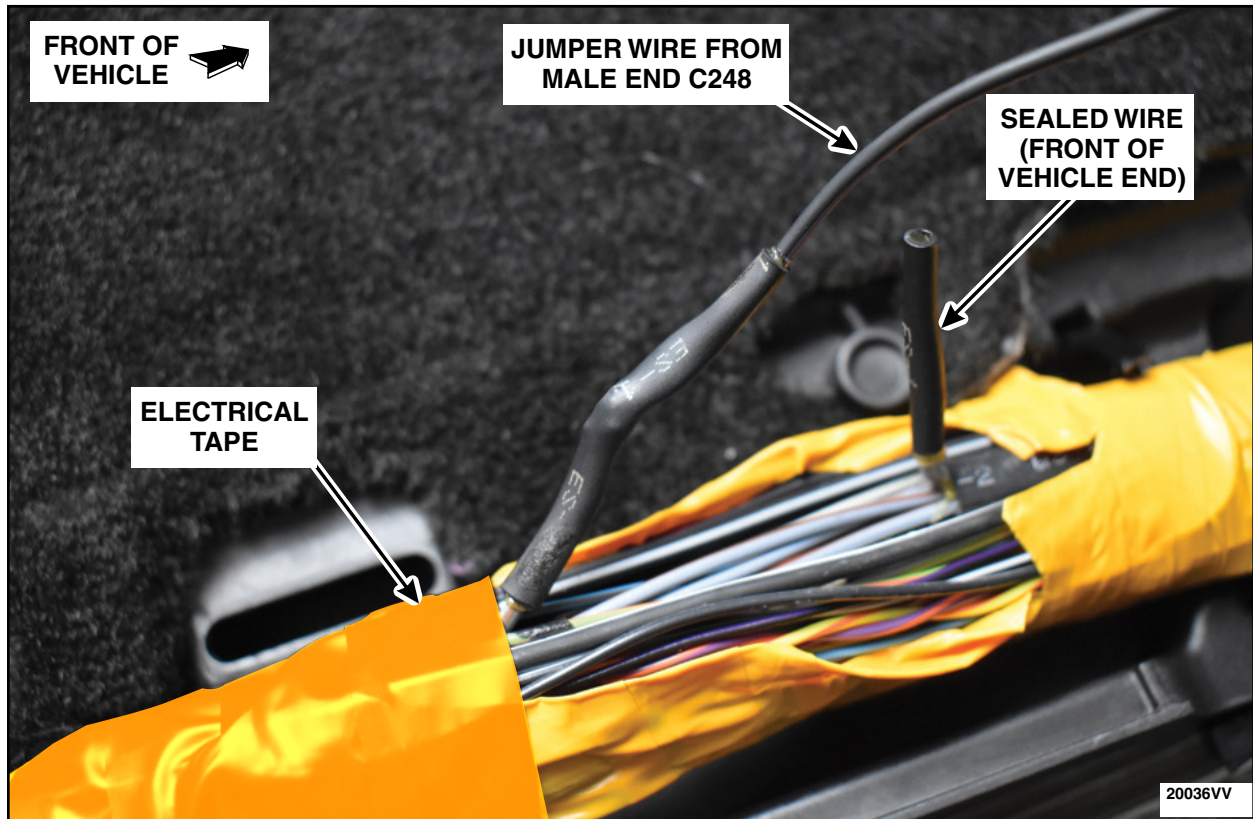

FIGURE 50
69. Apply heat shrink tubing and seal the front of vehicle end of the cut wire. Strip, solder and seal with heat shrink the jumper wire from C248 to the rear of the vehicle end of the cut wire. See Figure 50. Re-wrap the harness using the appropriate (black or orange) electrical tape.